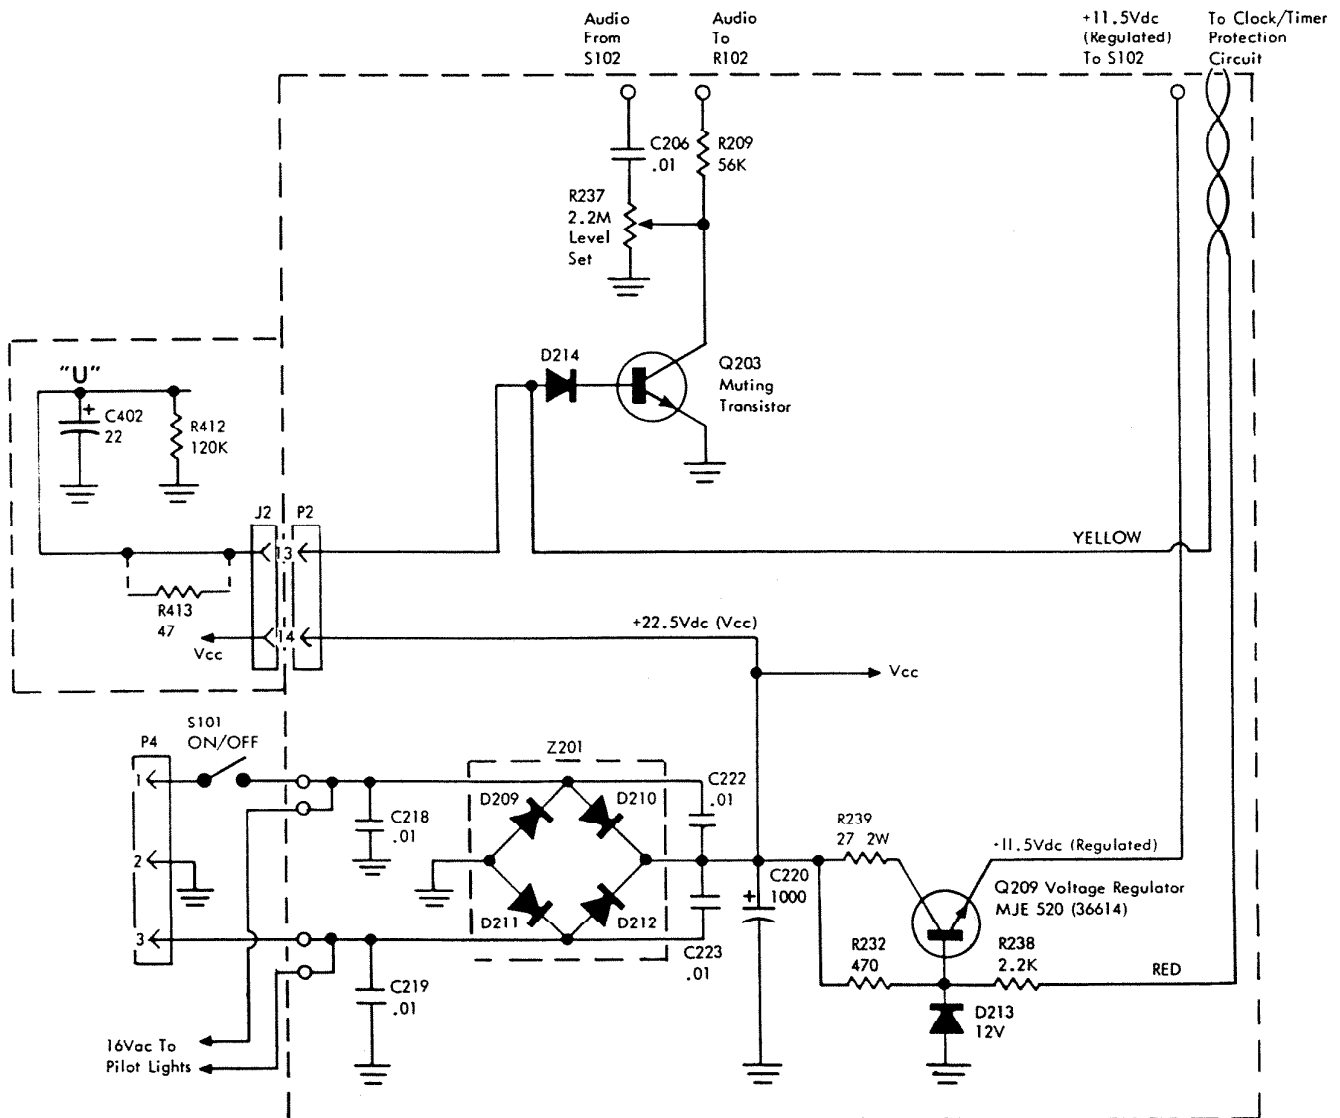

FIGURE A1: MODIFICATIONS TO AMPLIFIER/POWER SUPPLY MODULE
(1) To aid in reducing diode rectifier switching noise, C218 and C219 – bypassing D209 and D211 respectively – were included in the original production units. Later Production units will include C222 and C223 – bypassing D210 and D212 respectively. (Figure A1)
(2) To prevent instantaneous destruction (open or short) of the voltage regulator Q209, later production units will use a heavier-duty device, i.e. Motorola MJE520 (Nu-Tone Part No. 36614-000)
(3) To further protect against short circuiting, the 27-ohm; 2-watt; wire-wound resistor R239 has been added to limit the short-circuit collector current.
(4) PROLONGED SHORT CIRCUITING OF THE REGULATED 11.5VDC SUPPLY WILL DESTROY THE VOLTAGE REGULATOR Q209. DO NOT SHORT TO GROUND WHEN MEASURING VOLTAGE OR WHEN ALIGNING THE TUNER.
(5) Original production units may be modified so as to agree with schematic diagram, Figure A1. The Tuner Module must be removed from the unit and the complete chassis removed from the cabinet to gain access to the Amplifier/Power Supply Module. (See page 29)
(1.1) Insertion of D214 in series with Q203 base will generally limit this voltage to a value below that required for muting. (Figure A1)